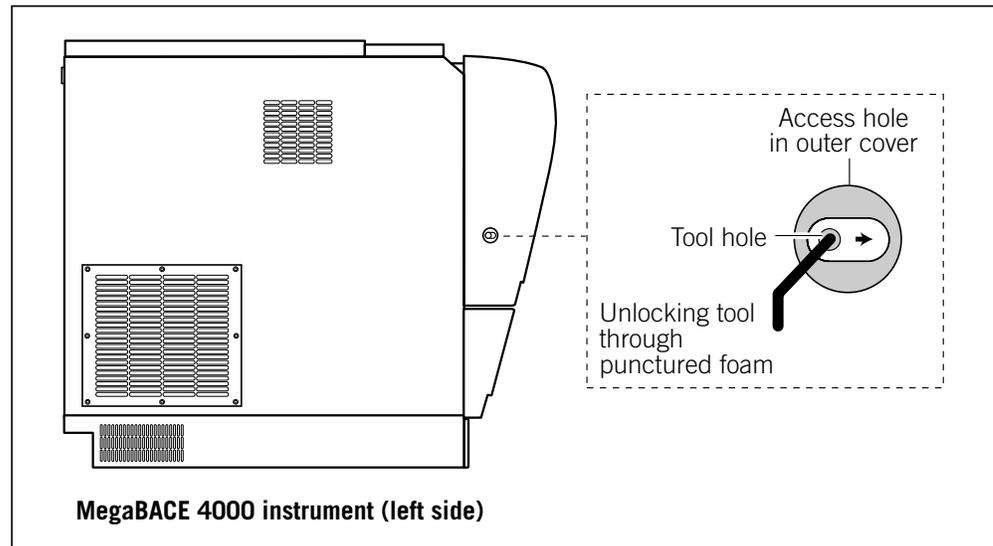

Figure 20-1. The unlocking tool and the access hole on the left side of the electrophoresis compartment lid.
2. Insert an unlocking tool, such as a hex wrench or screwdriver, to puncture the foam in the access hole (figure 20-1).